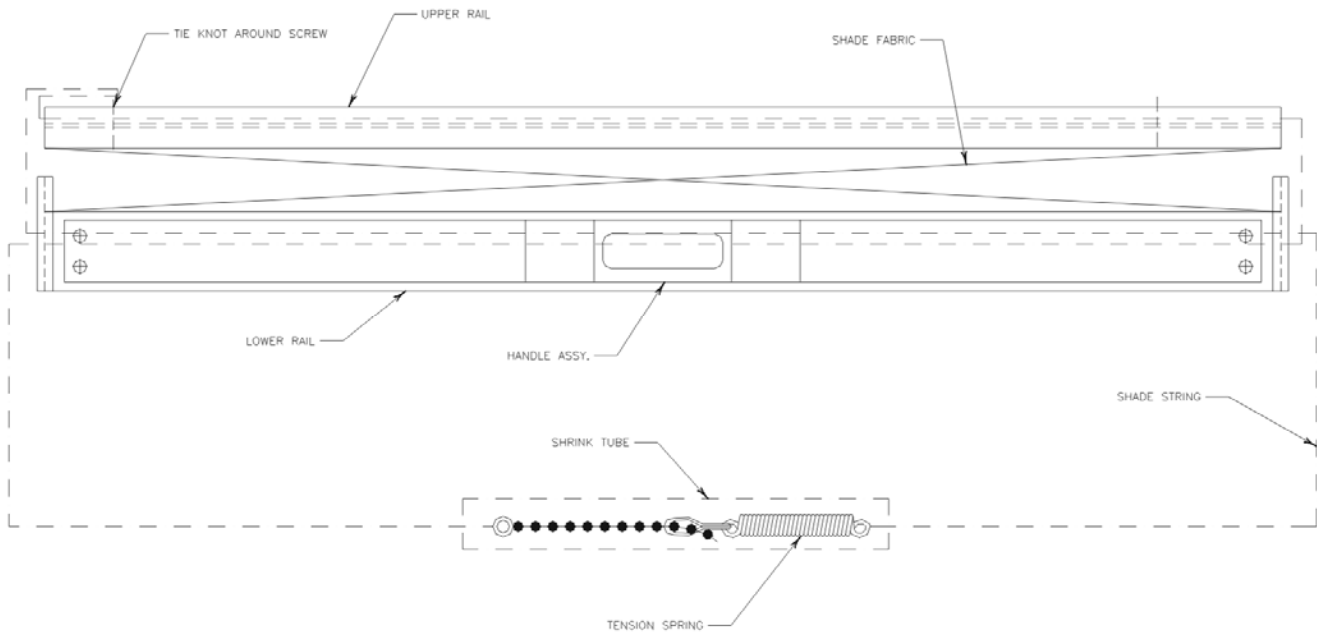

FIGURE 5/ GRAPHIC 25-22-10-991-005
- C. Tie upper left screw at mid way thru string and run string thru shade assy. (See FIGURE 5/ GRAPHIC 25-22-05-991-005)